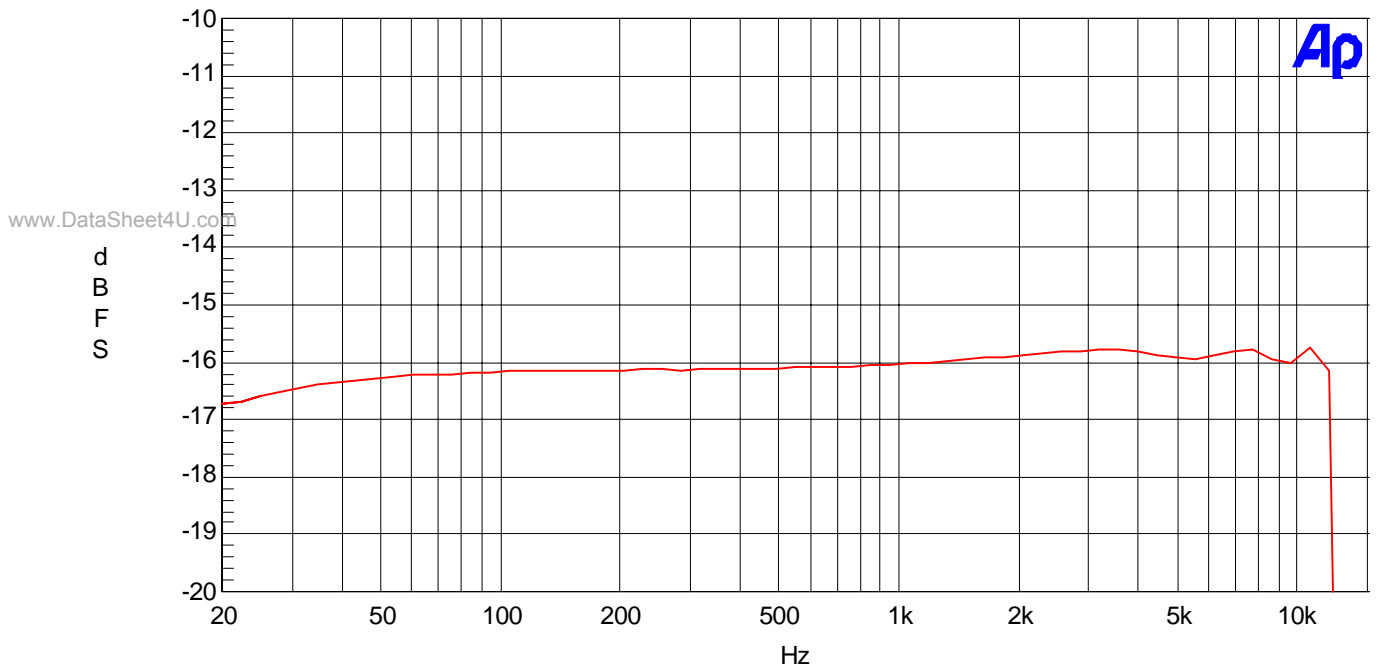

Figure 12. Frequency Response (-15dB)
- Figure 12. Frequency Response (-15dB)